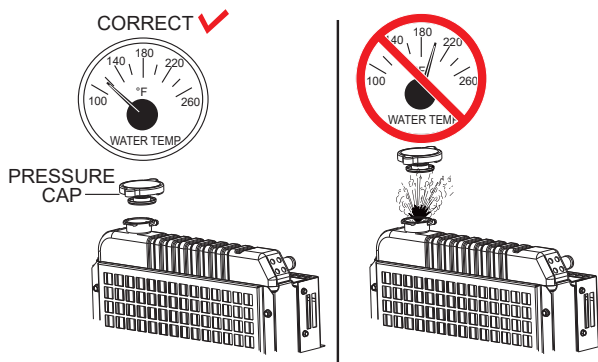

Figure 76. Radiator Pressure Cap Removal
1. Remove the radiator pressure cap (Figure 76) only if the coolant temperature is below 120°F (50°C).